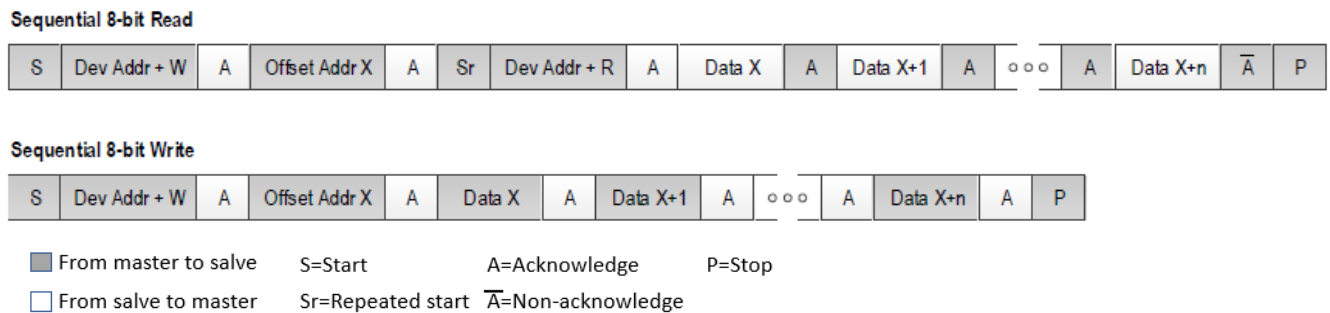

Figure 1. I2C 1-Byte Offset Mode Slave Sequencing
- The 1-byte offset mode – It also called page mode where part of the address offset is provided in each transaction and another part comes from an internal page register in each serial port. For an I2C 1-byte offset mode operation example, see Figure 1.
The I2C slave protocol complies with the *I2C Specification*, version UM10204 Rev.6, 4 April 2014. The SCL_SCLK and SDA_nCS pins are 3.3V tolerant. The Dev Addr shown in the Figure 1 represents the I2C bus address that the device will respond to. This 7-bit value in the i2c_addr register field defaults to 0x09 if not programmed via the OTP load.